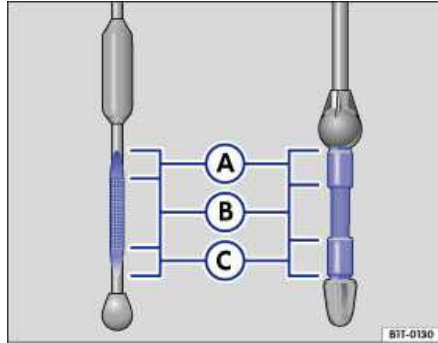

Fig. 182 Oil dipstick with engine oil level marks.
7. Remove the dipstick again and read the oil level on the dipstick ⇒ fig. 182 as described below:
- (A): **Do not** add any oil ⇒ . Continue with step 15.
- (B): Oil may be added (about 1 pint / 0.5 liter). Continue with step 8 or step 15.
- (C): **You must** add oil (about 1 quart / 1.0 liter). Continue with step 8.
13. After adding oil, the level must at least be in the center of the ⇒ fig. 182 \(B\) area, but never above (A) ⇒ .
<a href="#">fig. 182</a>	Required action according to the respective engine oil level: